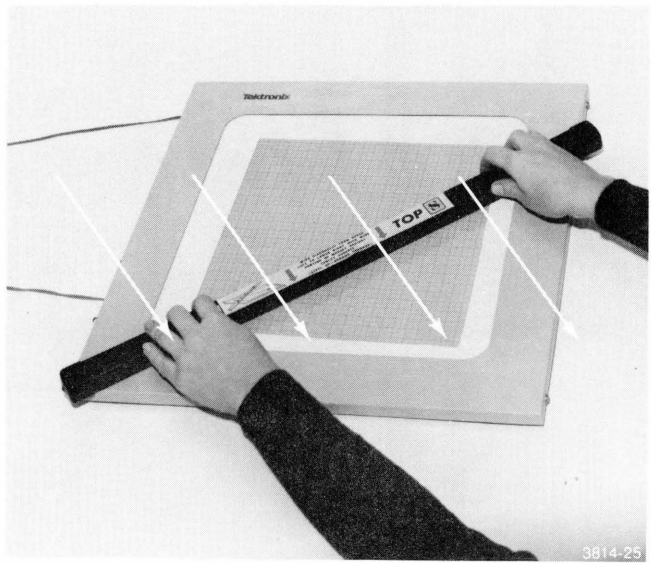

Figure 3-11. Restoring the Tablet Bias.
3. Pull the magnet across the tablet from the upper-left corner towards the lower-right corner in a single, smooth motion (Figure 3-11). Wipe the entire surface in about two or three seconds.